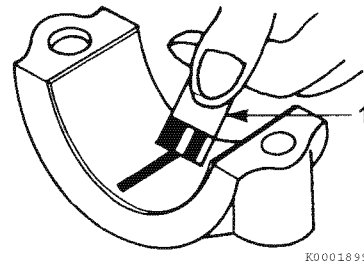

Figure 6-44
- 6- Compare the width of the flattened PLASTIGAGE to the graduation marks on the package (1, **Figure 6-44**). The mark that most closely matches the width of the flattened PLASTIGAGE will indicate the bearing oil clearance. See *Crankshaft, Balancer Shaft, Piston and Connecting Rod* on page 6-7 for the wear limit.